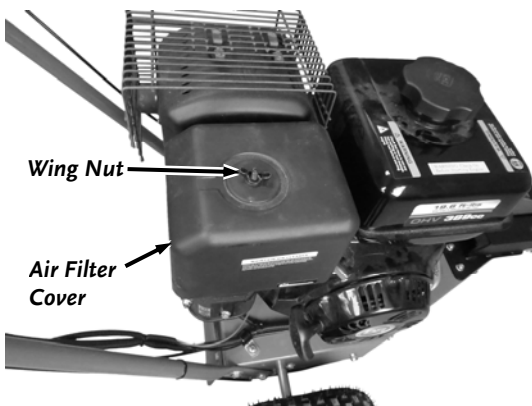

Figure 17
21. Remove the Wing nut from the Air Filter Cover and remove the Air Filter Cover (**Figure 17**).